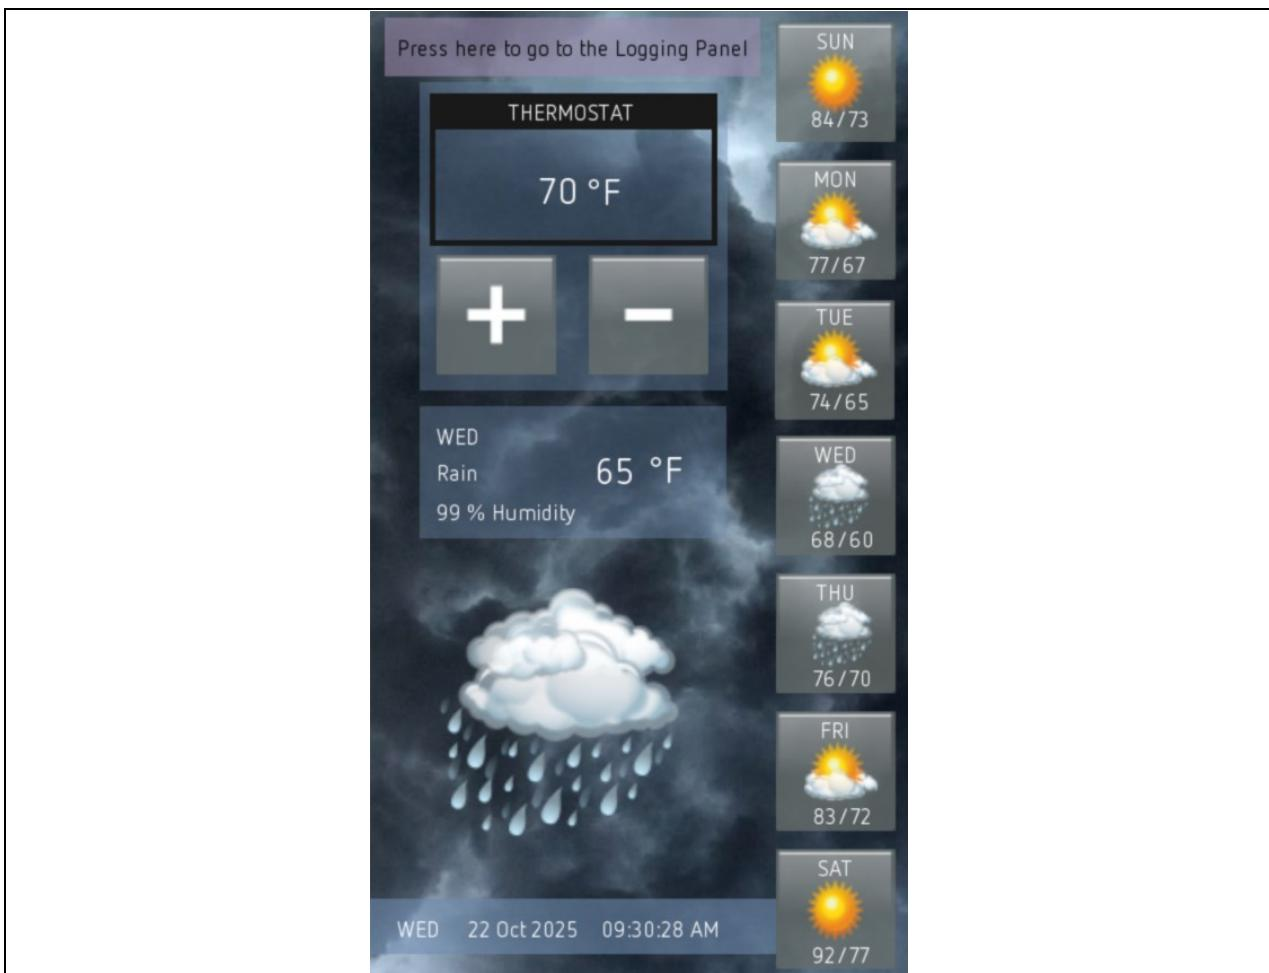

Figure 50. The Weather Panel screen is displayed after startup
- The Weather Panel will show as in Figure 50. Interact with the MIPI LCD to observe the full functionality of the thermostat application.